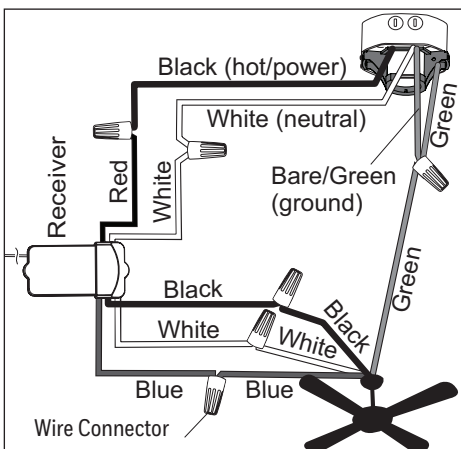

Figure 5.1
1. Use wire connectors to connect the fan wires and the receiver wires to the household supply wires according to the wiring diagram and the following instructions (Figure 5.1):